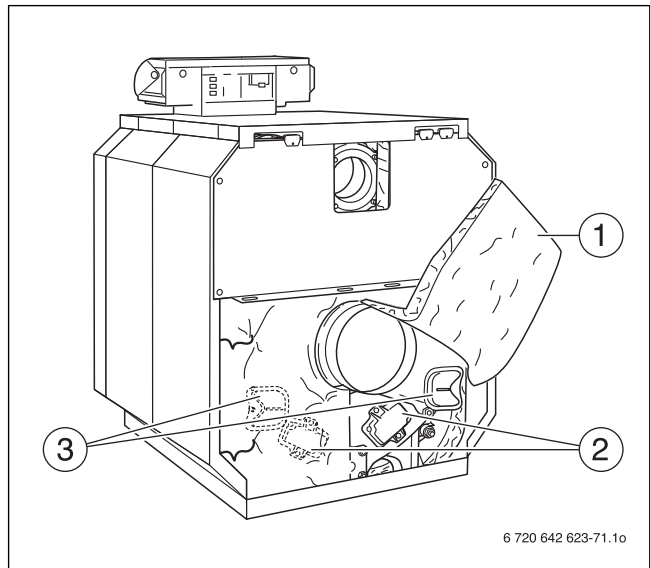

Fig. 75 Removing the cleanout cover.
- ▶ Undo the spring hooks below the flue outlet, fold up the thermal insulation and attach via the spring hooks (→ Fig. 75, [1]).
- ▶ Remove the cleanout covers from the rear section (→ Fig. 75, [2]) and on the draft diverter (→ Fig. 75, [3]).